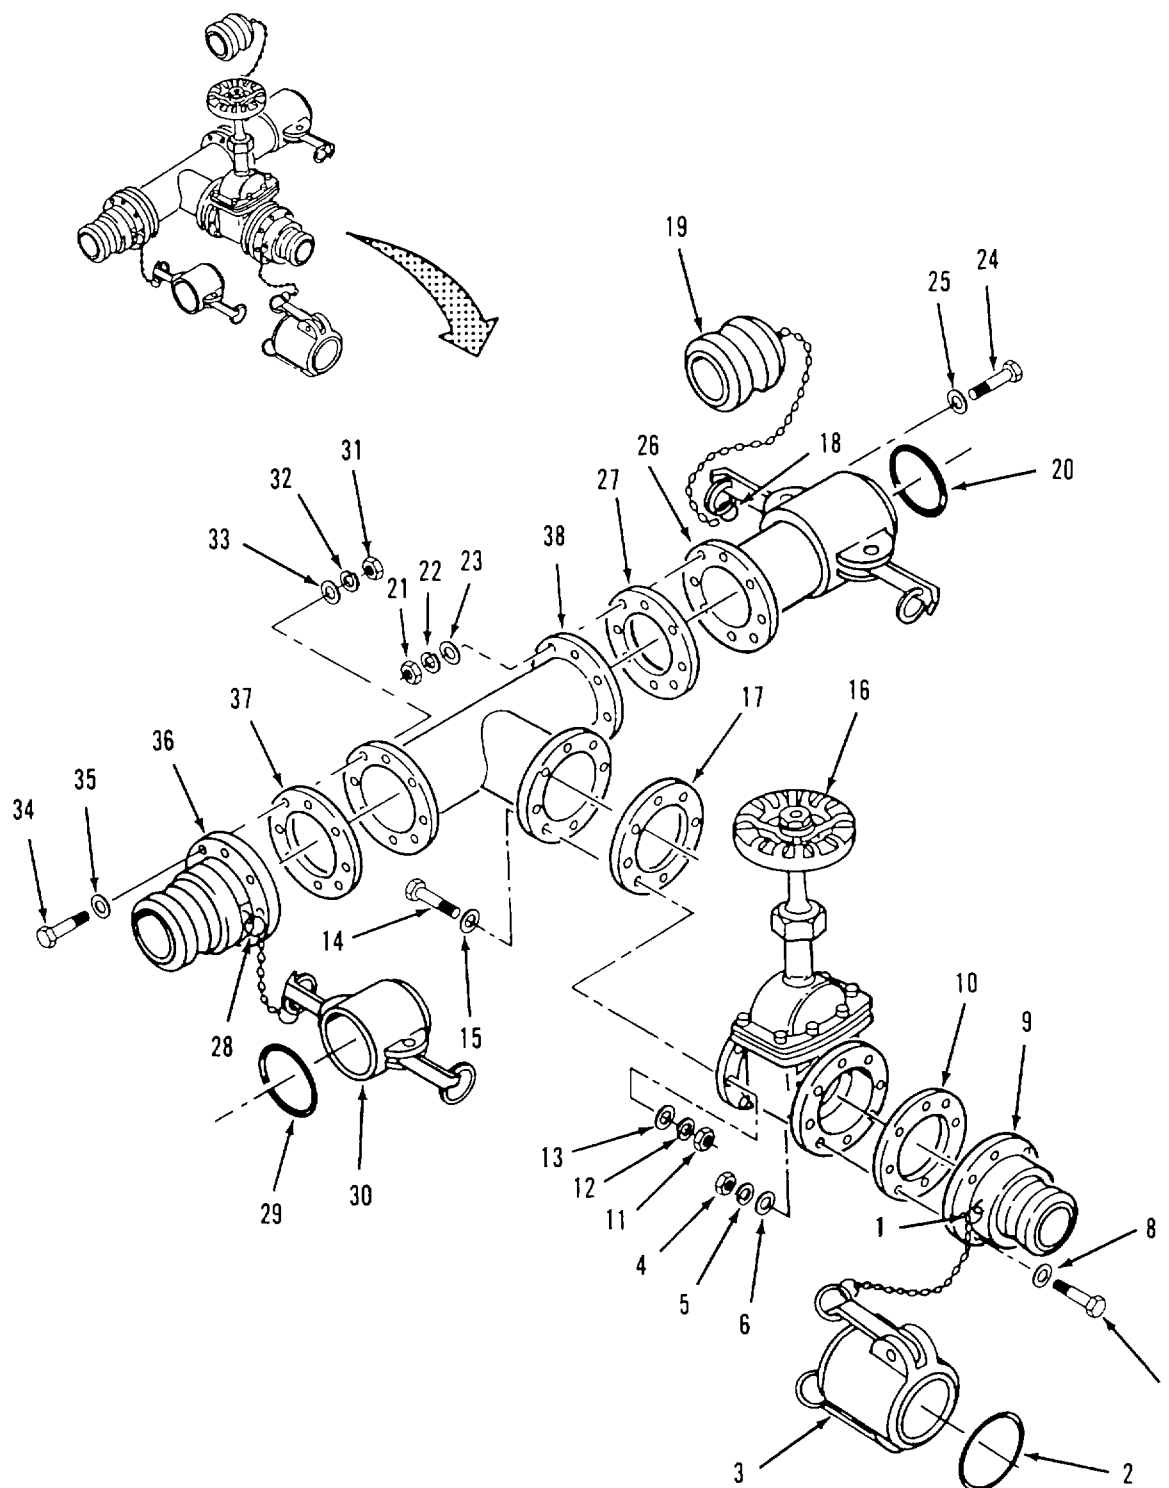

Figure 4-32. Tee and Gate Valve Assembly (9114-Y1) Assembly.
- (1) Refer to para. 4-27 to repair gate valve.
- (2) Replace defective components Do not reuse sealing components.
e. Assembly. Refer to figure 4-32.
- (1) Position gasket (37) and male coupling (36) on tee (38).
- (2) Install eight flat washers (35), screws (34), flat washers (33), lockwashers (32) and nuts (31).